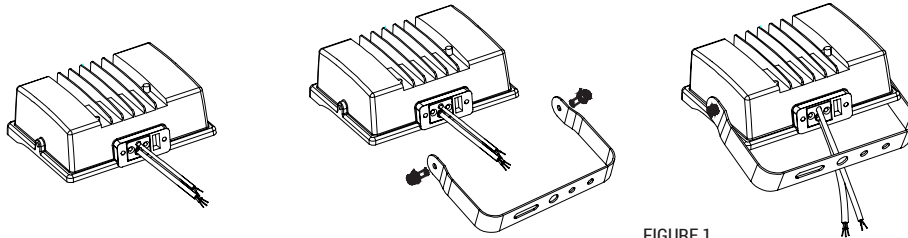

FIGURE 1
Step 2: Tighten the brackets and screws.(Figure 1)